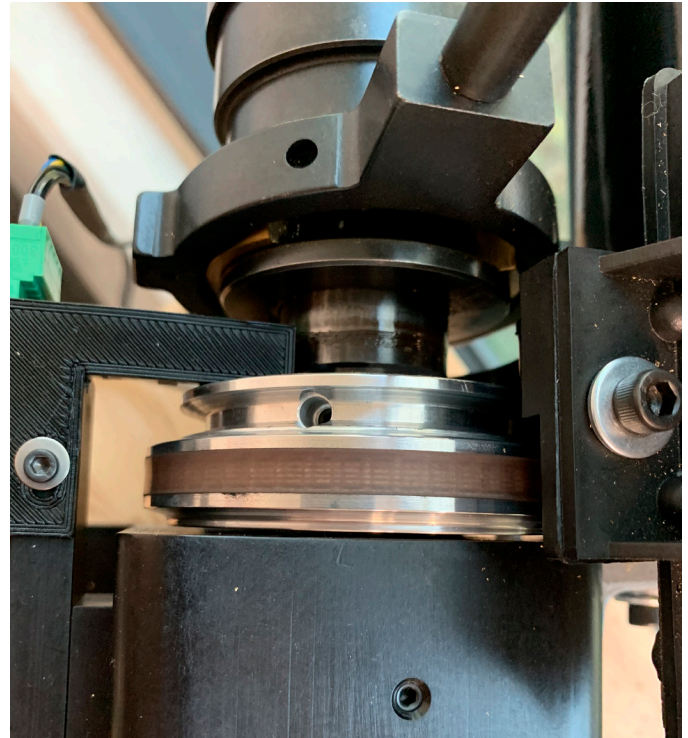

FIGURE 2—The V-belt is positioned in the high-torque, lower pulley groove.
3. With the V-belt in the high-torque/low-speed pulley groove (see Figure 2), the maximum RPM is 1380. No matter what your programmed spindle speed is or what spindle speed is entered via the MDI, the maximum RPM will not exceed 1380.